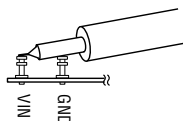

Figure 2. Measuring Input or Output Ripple
**NOTE.** When measuring the input or output voltage ripple, care must be taken to avoid a long ground lead on the oscilloscope probe. Measure the input or output voltage ripple by touching the probe tip directly across the Vin or Vout and GND terminals. See Figure 2 for proper scope probe technique.